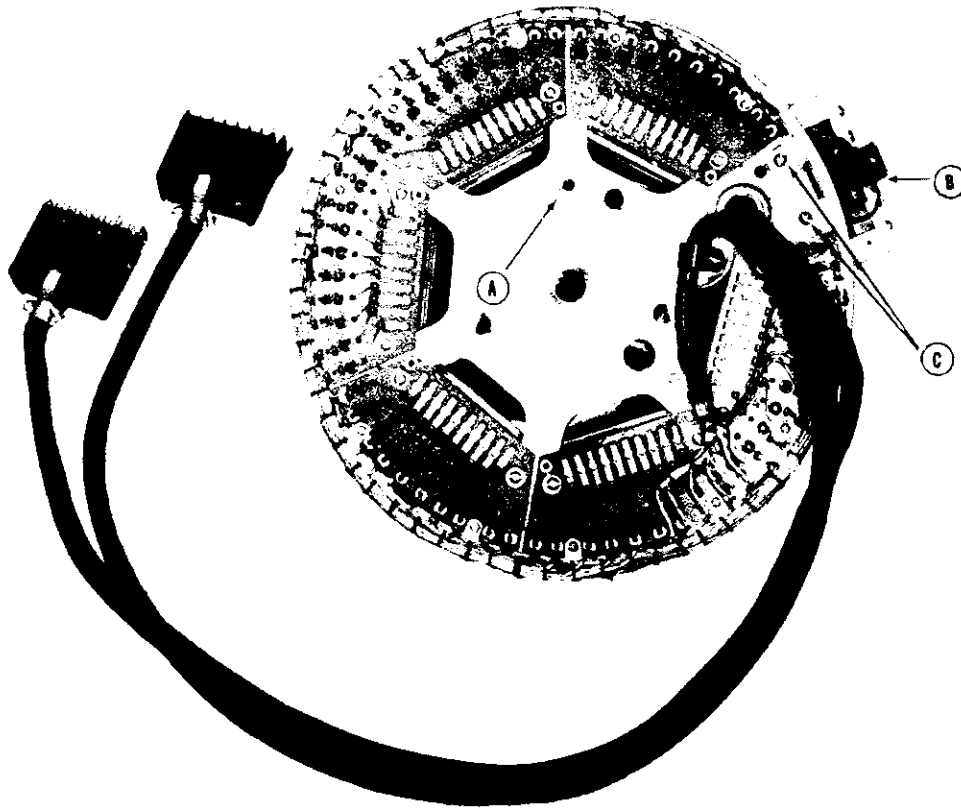
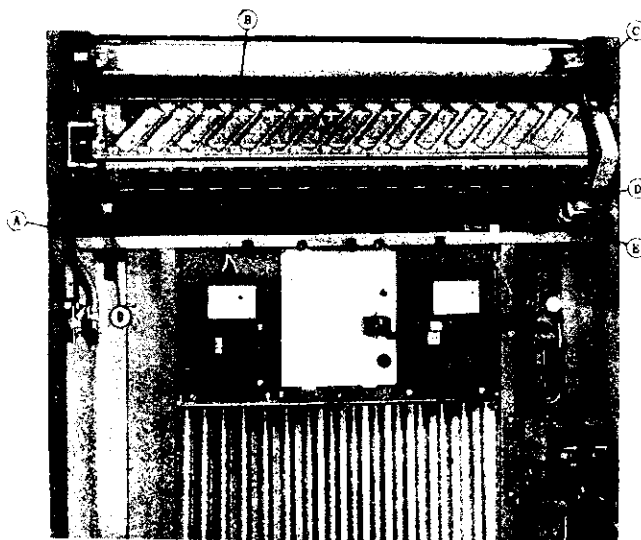

FIG. 1 SELECTOR UNIT
FIG. 2 PROGRAM HOLDER ASSEMBLY
The selector unit is suspended in the mechanism by a shaft inserted through the center of the selector unit into a hollow shaft which supports the record magazine. The selector unit is positioned and kept from rotating by means of a shoulder screw partially visible behind the counter drive gear, at (A-Fig. 1).
3. Take out 2 screws holding selector rail segment (C-Fig. 1) and slide out carriage assembly (B-Fig. 2). Do not remove cable wiring from carriage assembly.
6. Place hand under selector unit for support, and remove shoulder screw at (A-Fig. 1). Lower selector unit and remove.
The program holder assembly (B-Fig. 2) may be removed for servicing by removing the following:
1. Ground connection screw at (A) in Fig. 2.
2. Disconnect red wire at (C).
3. Pull twelve prong Jones plug out of socket at (E).
4. Remove two wing screws which mount program holder assembly at (D) and remove program holder unit.